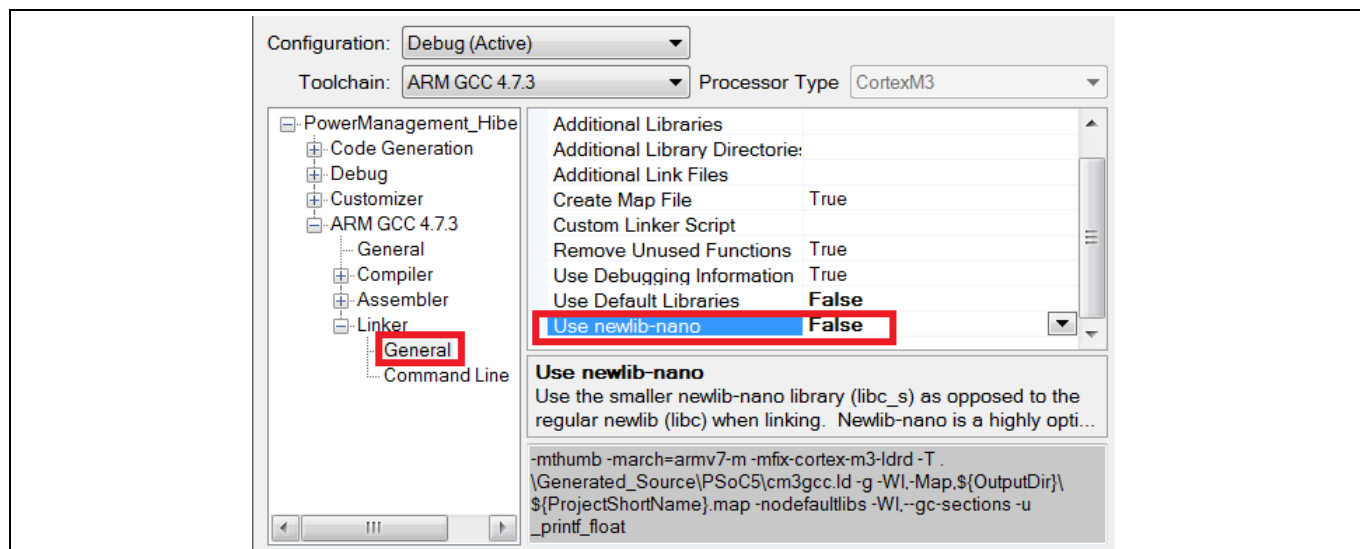

Figure 9 Disabling newlib-nano
2. Change the library to the full-featured newlib, as shown in Figure 9. Note that the **Use Default Libraries** option must also be set to `False`. The default is to use newlib-nano; changing to newlib increases flash usage by 25K to 30K bytes, and increases SRAM usage by approximately 2K bytes.